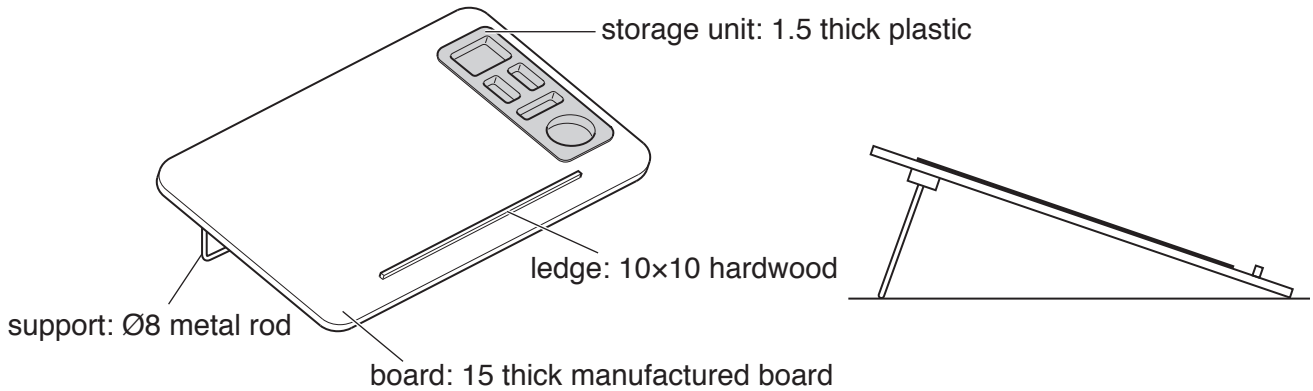

Fig. 8
11 Fig. 8 shows views of an artist's drawing board.
- (f) Use sketches and notes to show a different method of supporting the drawing board to that shown in Fig. 8.